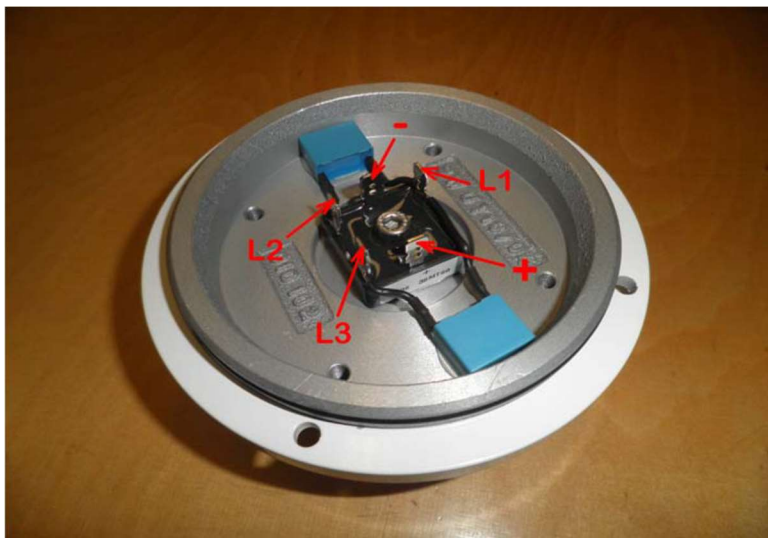

Figure 1
2. Disconnect the five (5) wires from the rectifier
3. Check the electrical continuity between the terminals of the rectifier by connecting the red (positive meter test lead) and black (negative meter test lead) as shown in **Table 1**. Refer to **Figure 1** for test point locations.